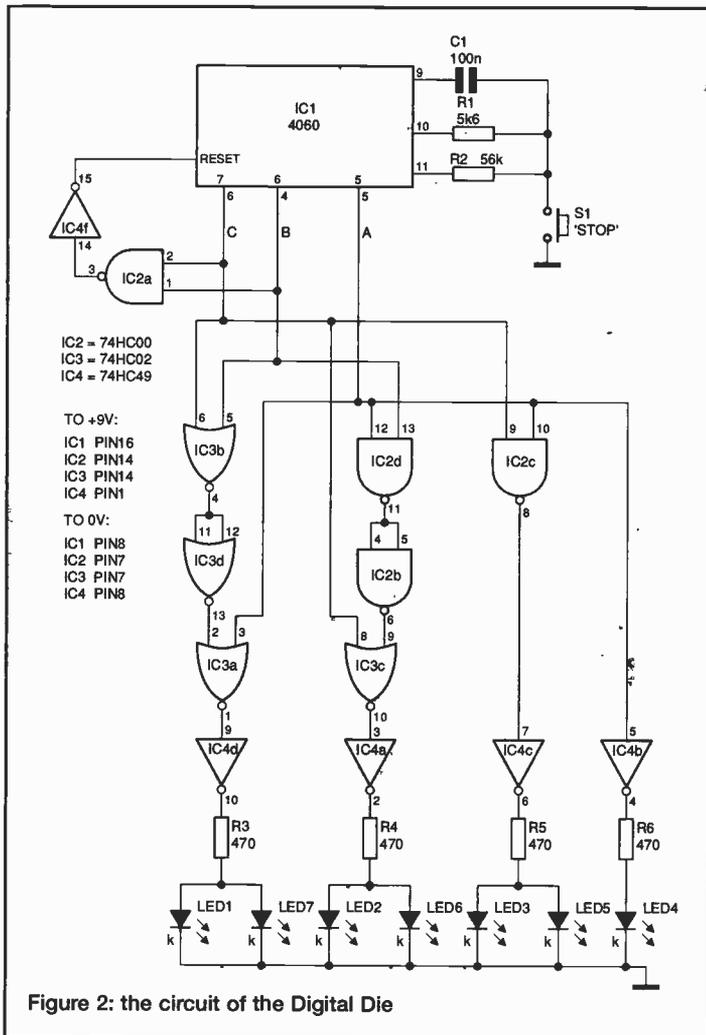

Figure 2: the circuit of the Digital Die
The display is driven by a counter (IC1 in figure 2), which has a built-in oscillator. The counter has 14 stages but we use the outputs from only three of these, stages 5, 6 and 7. With the
given resistor and capacitor values, the outputs of these stages cycle through the binary states 0 (000) to 5 (101) at just about the right rate to make the display impossible to follow. The next part of the circuit consists of logic gates connected so as to light up the appropriate LEDs at each state. What we need to do is set out in the following table; figure 2 (the stripboard layout) shows the numbering of the LEDs: